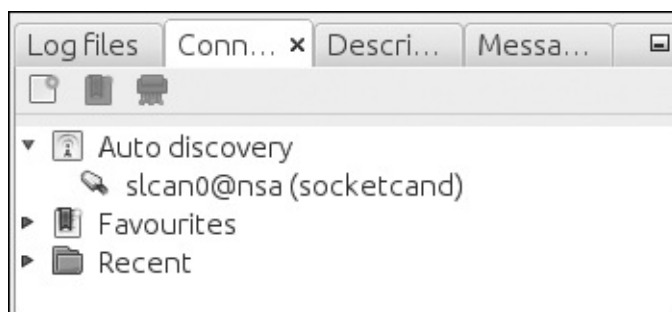

Figure 3-4: Finding Auto Discovery under the Connections tab
3. Click the **Connections** tab at the right; your socketcand should show up under Auto Discovery (see Figure 3-4).